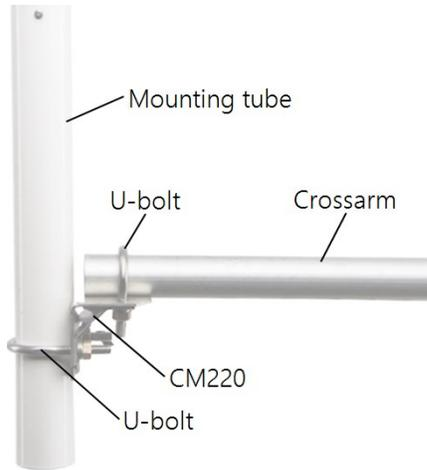

FIGURE 7-1. ClimaVUE50, MetSENS, or WindSonic Mounting Pipe Kit and crossarm
1. If using a crossarm, attach the mounting tube to the crossarm by using the CM220 Right Angle Mounting Kit, then mount the crossarm to the tripod or tower (FIGURE 7-1 (p. 14)).